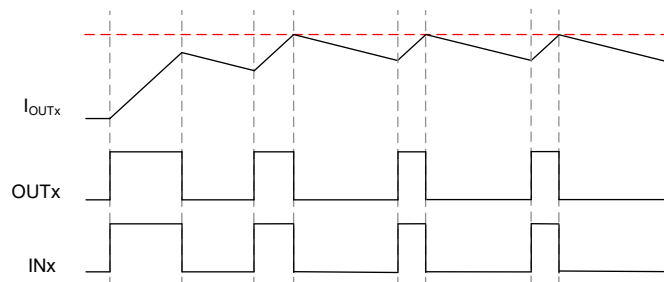
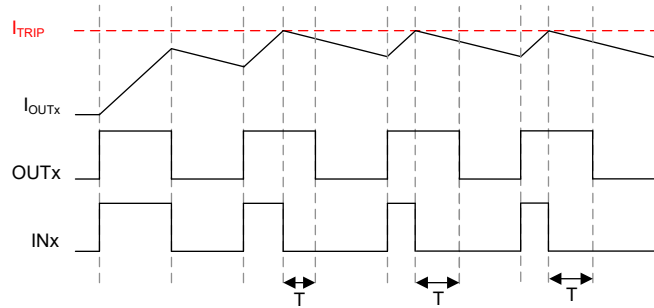

Figure 6-5. Inductive Load Connected to ground, Cycle-by-cycle control
Figure 6-6. Inductive Load Connected to ground, Cycle-by-cycle control
- Loads can also be controlled using the cycle-by-cycle method. When $IN_x = 1$, the current through the load builds up; and when $IN_x = 0$, the current through the load decays. By properly choosing the duty cycle of the IN_x pulse, current can be regulated to a target value. Various such scenarios are shown in Figure 6-5 and Figure 6-6.